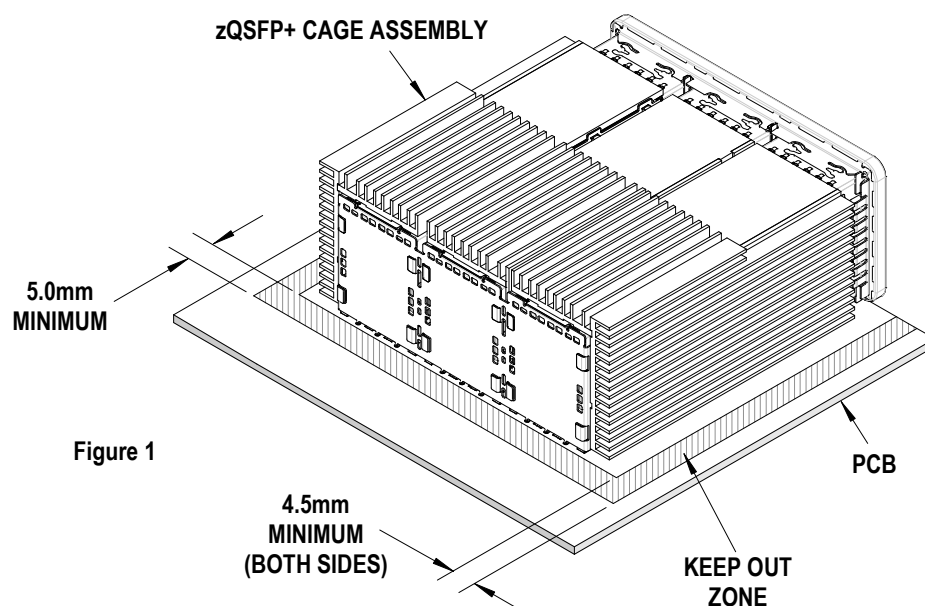

Figure 1
2. These tools require a "Keep Out Zone" around the connector free of components. The right and left sides should be 4.5mm (.17") and the rear of the connector should be 5.0mm (.197"). See Figure 1.